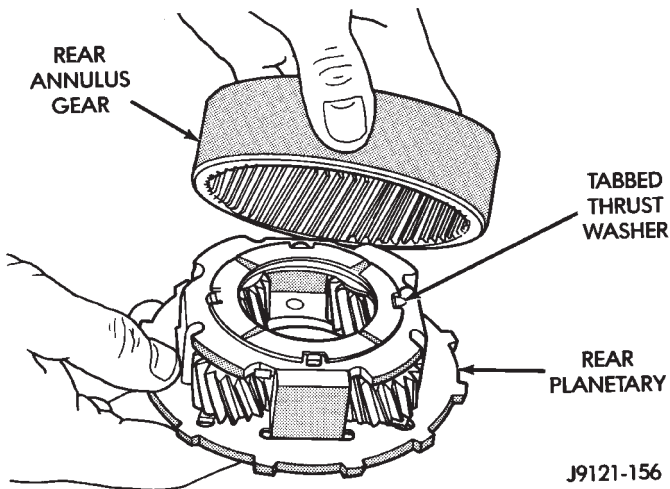

Fig. 80 Assembling Rear Annulus And Planetary Gear
(1) Lubricate output shaft and planetary components with transmission fluid. Use petroleum jelly to lubricate and hold thrust washers and plates in position.
(2) Assemble rear annulus gear and support if disassembled. Be sure support snap ring is seated and that shoulder-side of support faces rearward (Fig. 80).
(4) Install rear annulus over and onto rear planetary gear (Fig. 80).